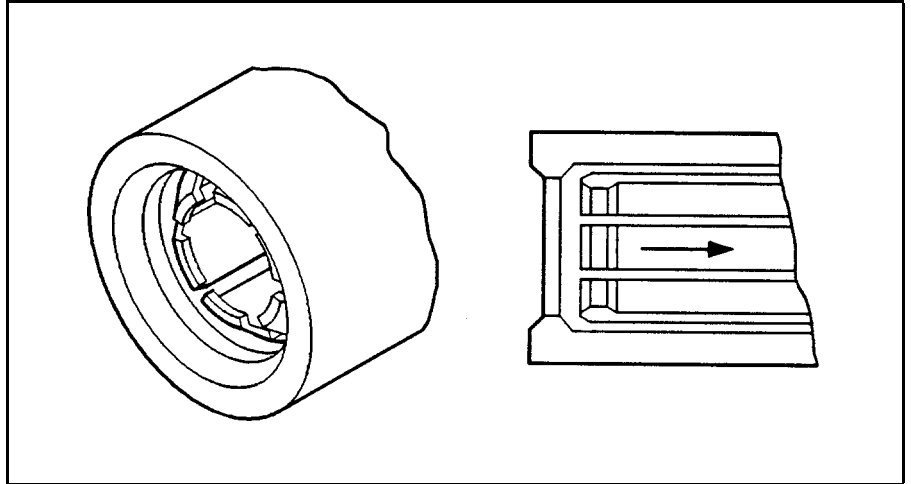

Figure 2-2. Broken Inner Contact
- The inner contact has one or more fingers broken (see Figure 2-2).